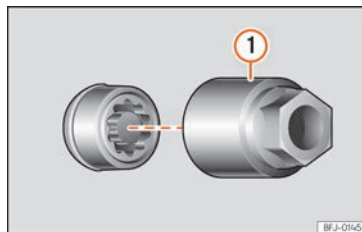

Fig. 35 Anti-theft wheel bolt with cap and adapter.
- Insert the special adapter » Fig. 35 ① (vehicle tools » page 41) onto the anti-theft wheel bolt and push it on as far as it will go.